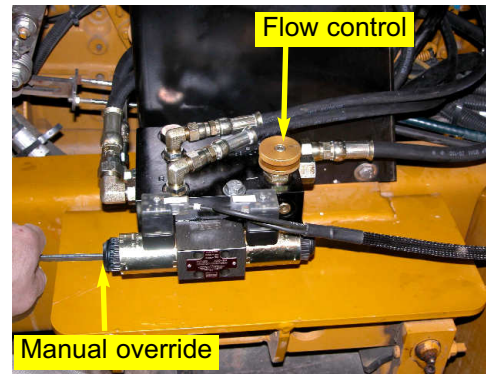

Figure 9. Manual override and flow control valve.
- Turn counter-clockwise to increase flow.(Figure 9.)
- e. Tighten the knurled locking nut against the cartridge face to maintain the desired setting. (Figure 9.)
- g. Count the number of seconds for the wheels to move all the way in the opposite direction while pressing the manual override of the other coil. (Figure 9.)
- h. Adjust the Automated Steering oil flow control knob to achieve an end-to-end steering cycle time of approximately **14 seconds**. (Figure 9.)